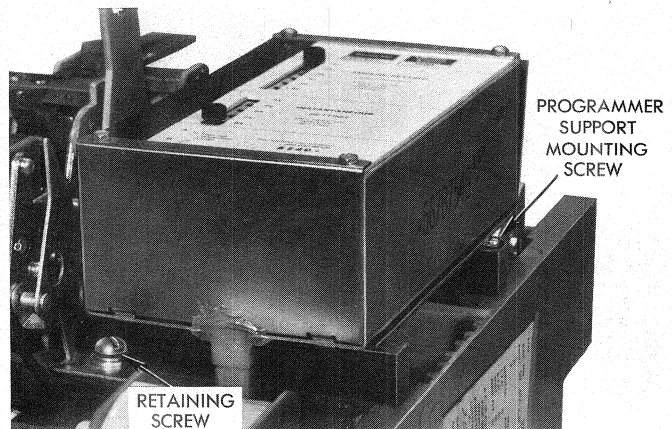
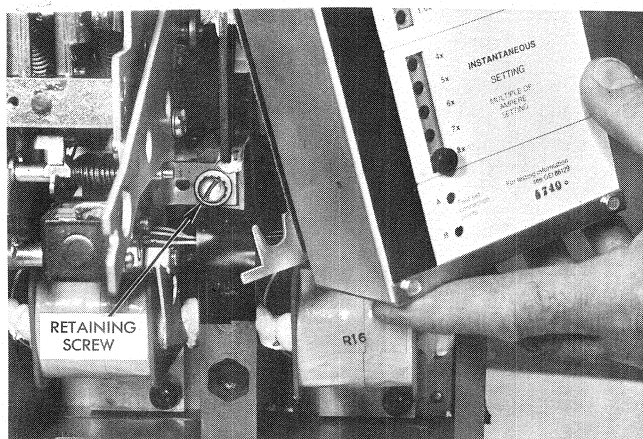

Fig. 2
Fig. 3
- a. Loosen captive programmer support mounting screw, Fig. 2.
- b. Slide programmer assembly beyond retaining screw as shown in Fig. 3. *Do not remove retaining screw.*
- b. Reinstall programmer, see Fig. 3 and secure support mounting screw, see Fig. 2.